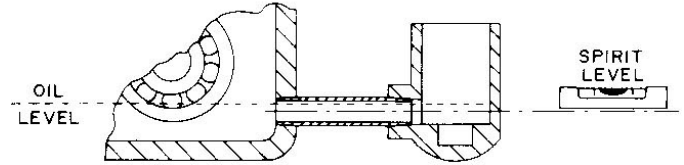
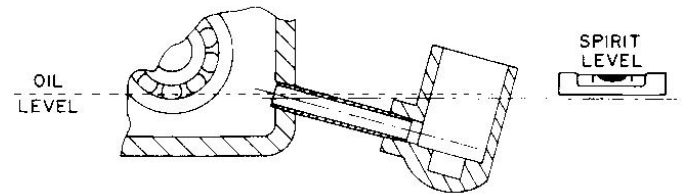

Figure 13
Figure 15
1. Check the center line of the lubricator and confirm that it is parallel with the bearing housing (Figure 13 & 14). Use spirit level if possible. Should a condition as in Figure 15 occur, the lubricator will not function properly. This condition must be corrected either by re-tapping the bearing housing or by adjusting the pipes.